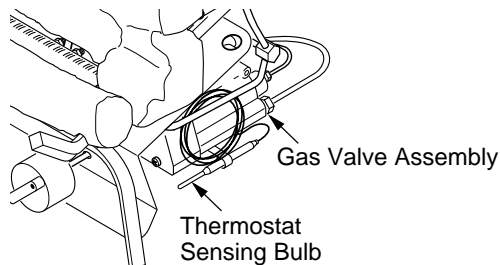

Figure 41 - Location of Gas Valve Assembly and Thermostat Sensing Bulb
1. Locate the gas valve assembly and thermostat sensing bulb (see Figure 41).